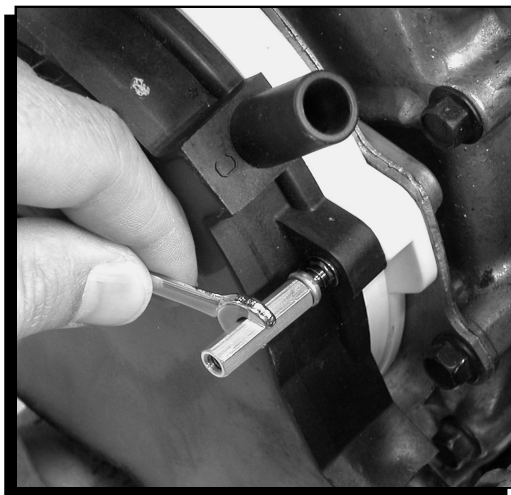

Figure 1 Removing the Original Cap.
14. Using the supplied special tool and a 1/4" wrench, remove the four screws that hold the distributor cap to the engine and pull the cap off (Figure 1).